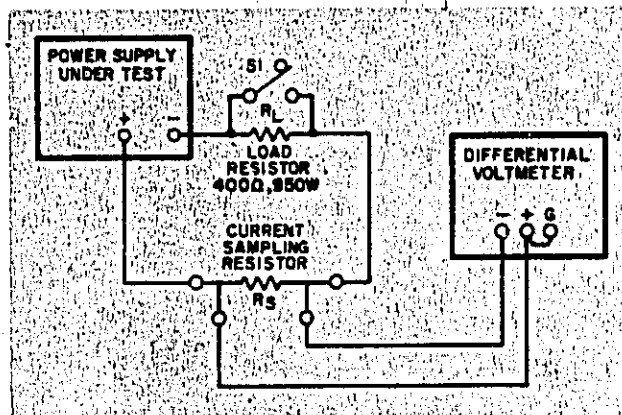

Figure 5-10. Output Current, Test Setup
- a. Connect test setup shown in Figure 5-10 leaving switch S1 open throughout check.
- a. Connect test setup as shown in Figure 5-10.
- a. Utilize test setup shown in Figure 5-10, leaving switch S1 open throughout test.